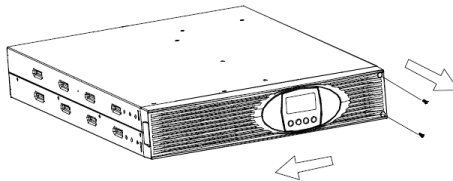

Figure 11: Removing the front cover
1. Remove the front cover (see Figure 11). First loosen both screws on the right side of the cover. Then push the cover to the left.